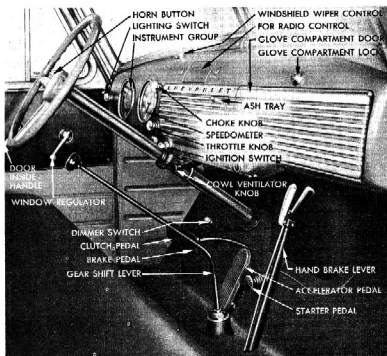
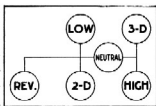
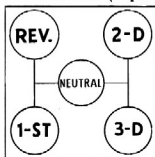

Fig. 2—Controls and Instruments—1½ and 2 Ton
Fig. 11—Four Speed Transmission Shifting Diagram
Fig. 12—Three-Speed Transmission Shifting Diagram
Parking Brake. On all $1\frac{1}{2}$ and 2 Ton, except C.O.E., the parking brake is a propeller shaft brake, hand operated with lever extending up through floor to the right of the gear shift lever and with the grip just below the instrument panel (fig. 2). Hand brake lever on C.O.E. is to the left of the gearshift lever. Pulling this lever back applies the propeller shaft brake by
Gearshift Lever (4-speed Synchro-mesh Transmission) extends to the left and back from transmission cover dome at center of floor (fig. 2). This lever is used to shift the transmission gears to the desired position. Figure 11 shows the lever knob positions when the transmission is in neutral, reverse and the four forward speeds. To shift the transmission into any of the forward speeds, disengage the clutch, move the lever across neutral to right or left as desired, and then forward or back into gear.
Figure 12 shows the gearshift pattern in neutral, reverse and three forward speeds. To shift into any gear position, disengage the clutch, move the shift lever up
2. Move gearshift lever into low gear position. (If 4-speed transmission see Figure 11, or if 3-speed transmission see Figure 12.)
1. Depress clutch pedal and release accelerator at the same time. Move the shift lever into neutral and then to the next higher gear. See shifting diagrams, Figures 11 and 12.
2. Move shift lever across neutral to left, against the spring tension as far as it will go. Move lever back into reverse (fig. 11).
2. Raise shift lever up across neutral and forward into reverse position. (fig. 12).